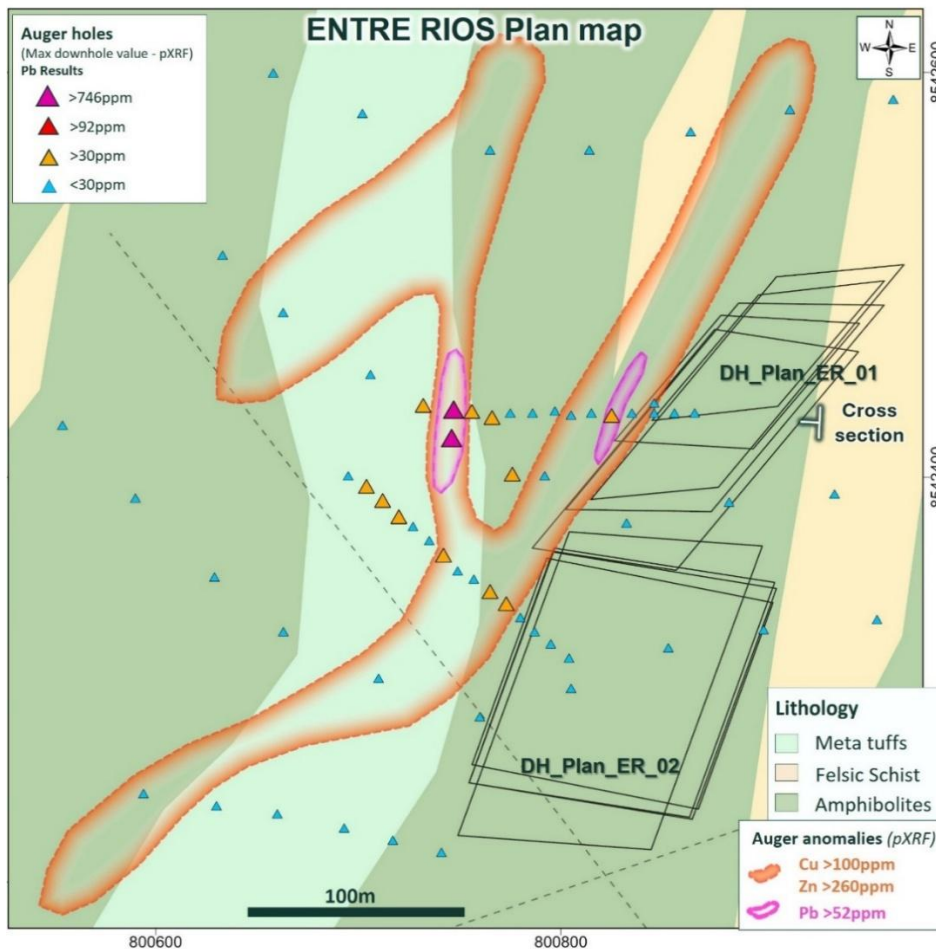

Figure 8: Entre Rios Prospect geological plan
**The Entre Rios Prospect** lies northeast-southwest, approximately 12km to the SE of C1 (Figure 8).
A series of ground geophysical surveys were conducted at Entre Rios, with a FLEM survey and multiple lines of dipole-dipole arrayed IP undertaken. The FLEM survey identified a strong late-time anomaly, which, after interpretation, generated multiple east dipping, low-moderate plate conductors extending north-south (See Figures 8 & 9).